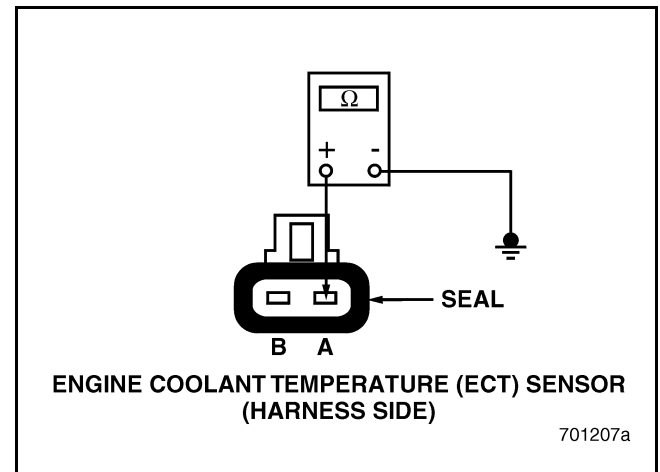

Figure 143
4. Check for continuity between pin A of the ECT Sensor harness connector and a good ground (see Figure 143).